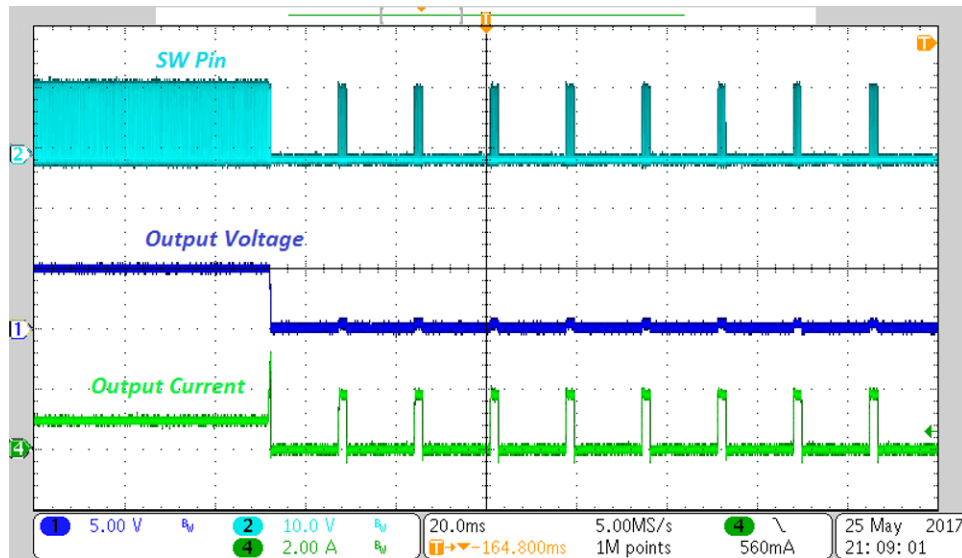
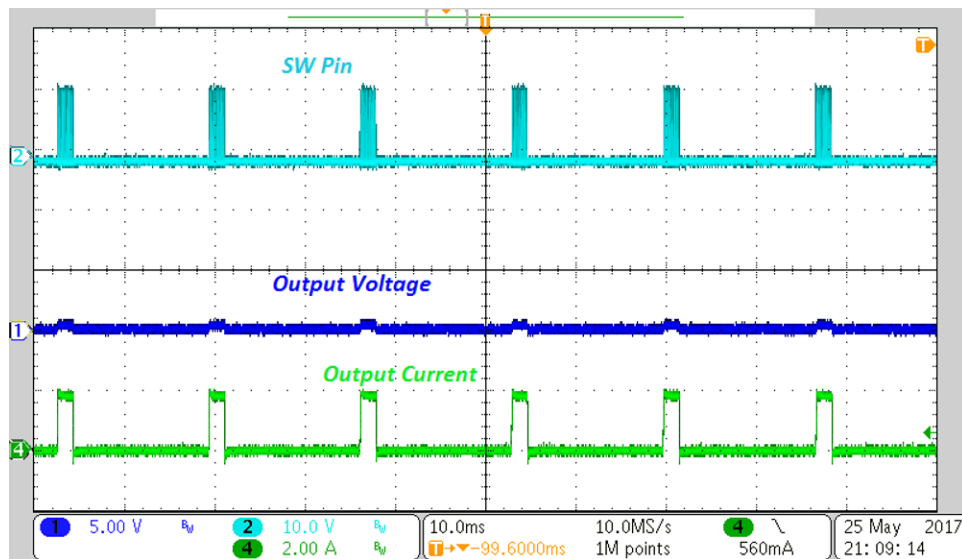

图 18. Overcurrent Protection
图 19. Short-Circuit Protection
The upper curve (1) is the output voltage with an oscilloscope in DC-coupling mode with 2 V/div (图 18) and 1 V/div (图 19). The lower curve (4) is the output current with 2 A/div.
As shown in 图 18 and 图 19, when the current is rising to the current limit level, the device enters overcurrent protection as described in the TPS561201 datasheet (SLVSC95). After waiting the pre-programmed time, the device tries to restart. Once the fault condition is removed, the device starts normally.